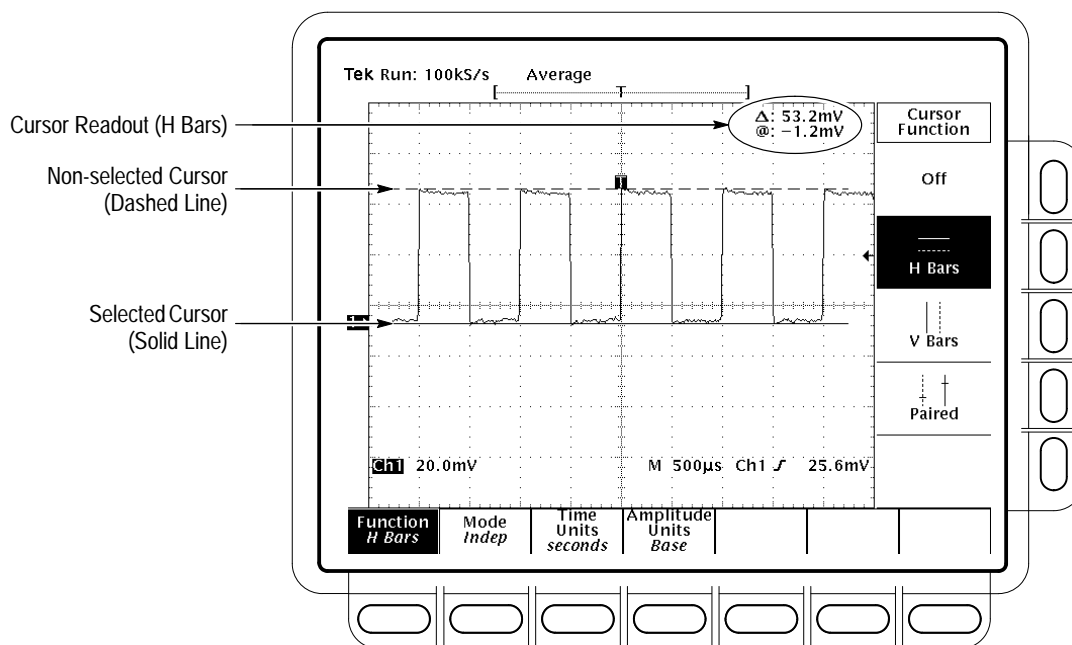

Figure 3–60: H Bars Cursor Menu and Readouts
**Paired.** The value after one  $\Delta$  shows the voltage difference between the two Xs; the other  $\Delta$  shows the time (or frequency) difference between the two long vertical bars. The value after @ shows the voltage at the X of the selected cursor relative to ground. (See Figure 3–61.)
1. To display the cursor menu, press **CURSOR**. (See Figure 3–60.)